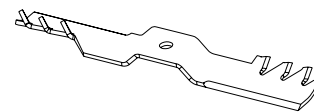

FIG3
- b) Mulching Blade and Grass Board: see FIG3